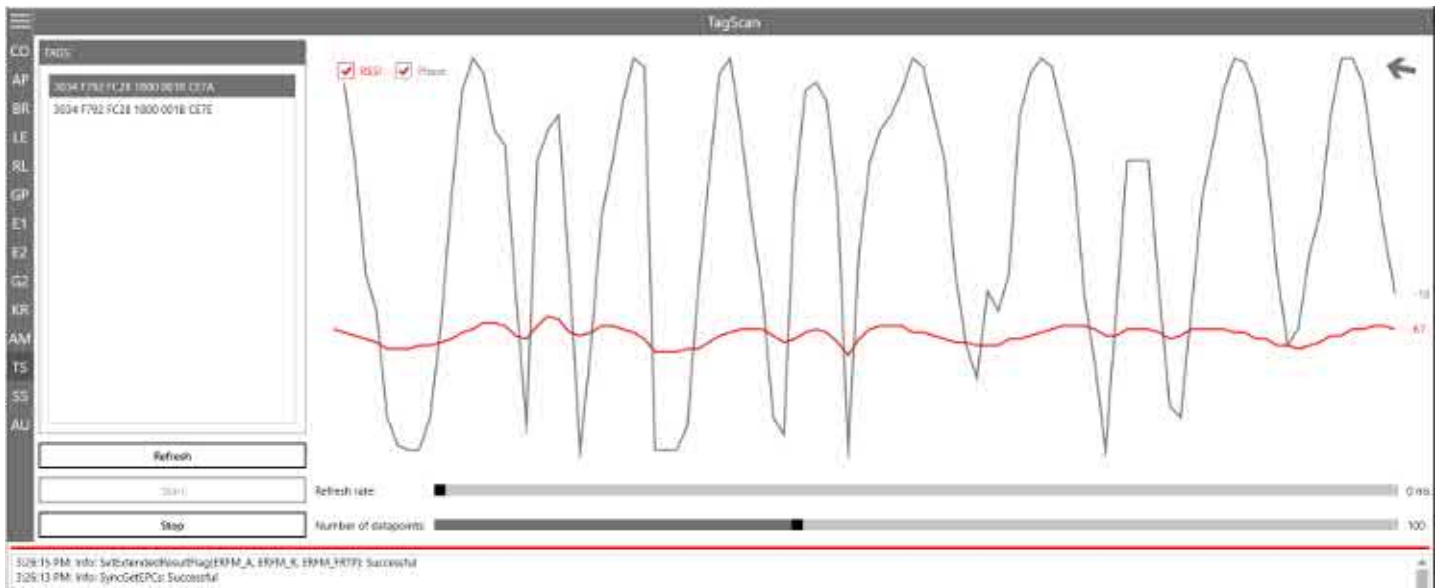

Fig. 78: TagScan: phase shift, transponder is moved
①	ETSI	selects the frequency area
②	Antenna 1-n	selects an antenna from the drop-down menu
③	Start	starts SpectralScan
④	Stop	stops SpectralScan
⑤	Reset maxima	resets maxima
If there is more than one reader, spectral scan shows which channels might be occupied by other readers. In Fig. 78, p. 113, the channels 4, 10 and 13 are occupied by other readers. If the user is not satisfied with the reading results and the interferences keep occurring, it is possible to deactivate channels on which the interference occurs (4, 10 and 13) and only activate the channel that is free (7) to achieve better reading results, see ⑩ in Fig. 56, p. 94.